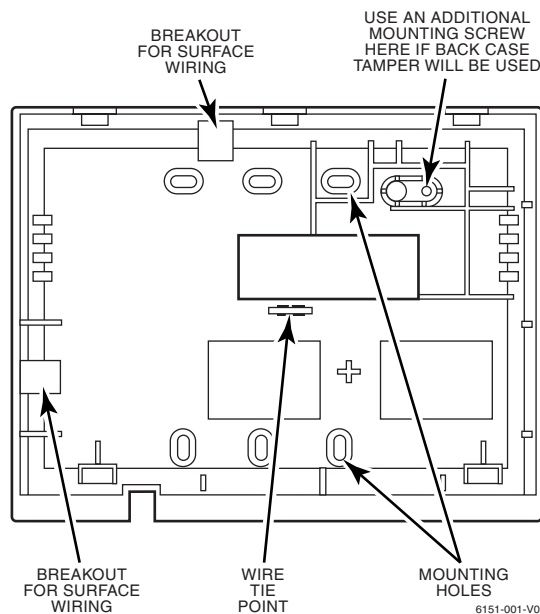

Figure 2. Wiring Entry (Case Back)
For tamper protection, an additional mounting screw must be used in the case back, as shown in Figure 2.
✓ If you wish to tamper-protect the keypad for removal from the wall, use an additional mounting screw in the tamper hole in the case back (see Figure 2 for location).
3. Pass the four power/data wires and zone wires through the opening in the case back. If surface wiring is being used, wiring may be routed through the top or the bottom left-side breakout in the case back. See Figure 2. The breakouts must be punched out using a screwdriver before mounting the case back. If desired, wires may be strain-relieved to the wire tie point on the inside of the case back with a tie wrap (not supplied).